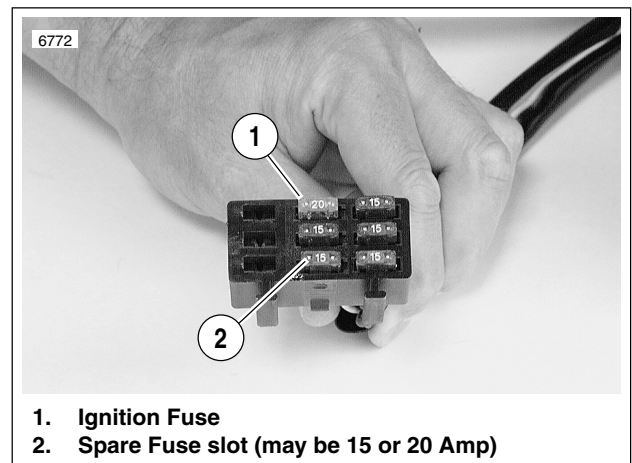

Figure 4-58. Ignition Fuse
- BN/Y wire is shorted to 12 volts. This will also cause the ignition fuse to blow. See Figure 4-58.